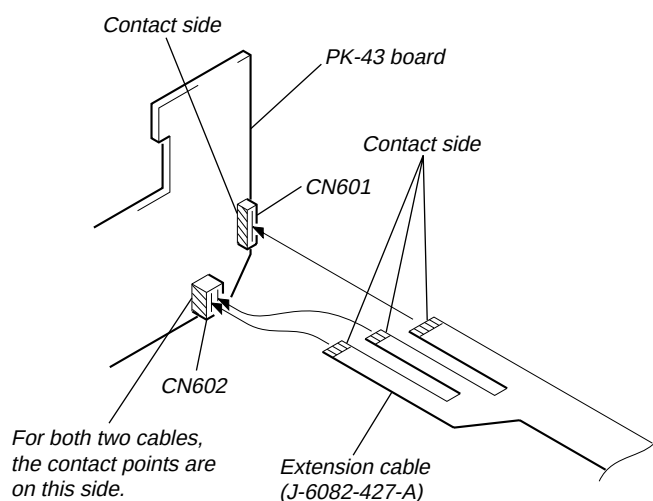

Fig. 4
- 6) Install the PK-43 board. (See Fig. 4.)